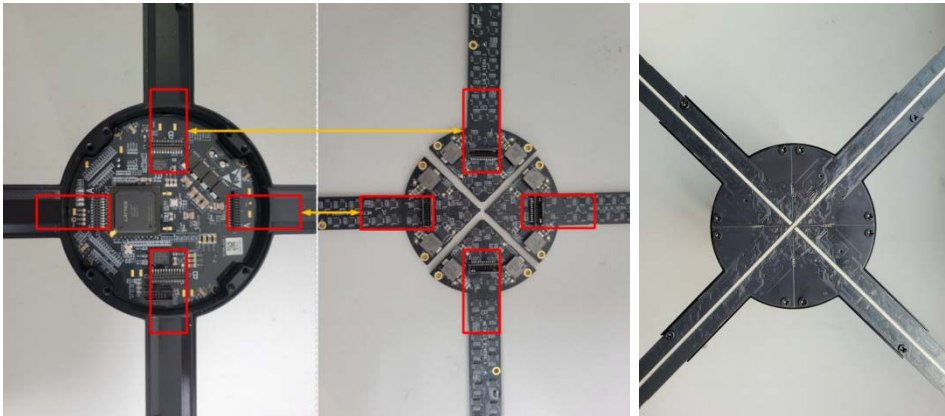

Figure 1-2
- 3、 Take the host and light board, place the A light board in position A, place the B light board in position B, and tighten the screws, as shown in Figure 1-2.